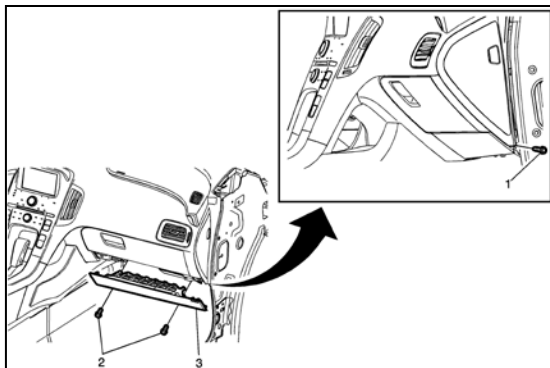

Fig. 3
7. Remove instrument panel lower air bag fasteners (1 and 2) and air bag module (3) (see Fig. 3).